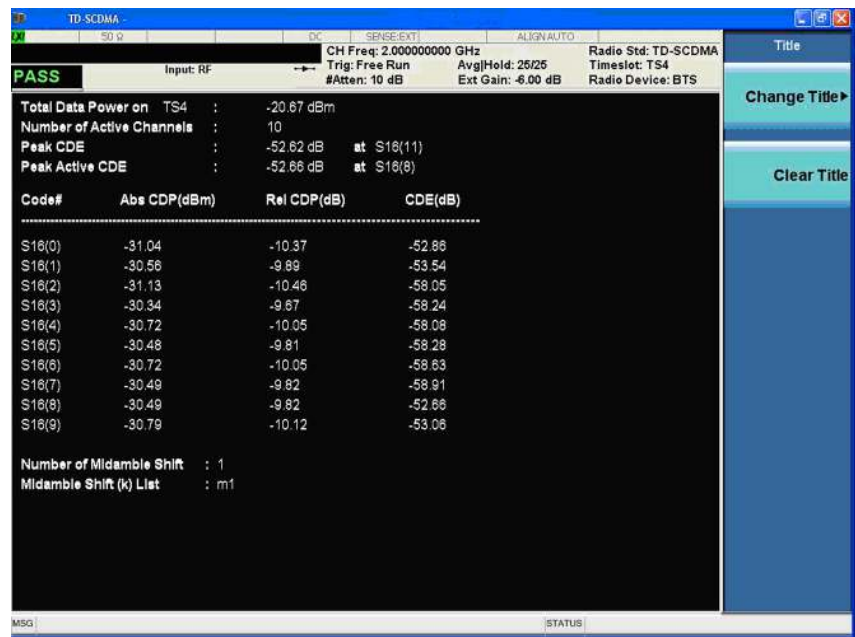

Figure 14. Code domain metrics of TS4 with 10 active channels
Review the list by expanding the view with the zoom key in the bottom of the front panel (Figure 14).	Press  in the bottom of the front panel to select the metrics window, then press  button to expand the window.
- Code domain power: Power bar graph in upper and metrics in lower windows; each code channels detected as active are listed with code number, absolute power in dBm and CDE in dB (See Figure 14, code domain matrices of TS4 with 10 active channels)